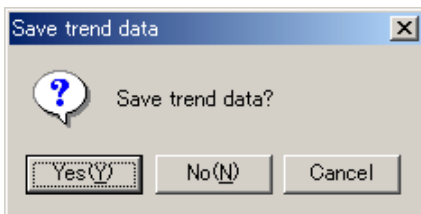
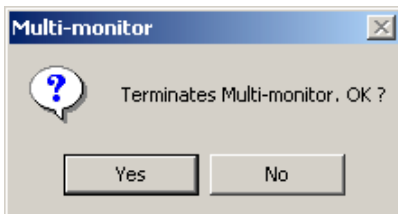

Figure 2.2.1 Save Trend Data Confirming Message Box
Figure 2.2.2 Close Message Box
- (1) From the menu bar, choose **File**, then **Exit**.
- (2) The following message box (Figure 2.2.1) appears when the tool is under operation. The following message box (Figure 2.2.2) appears when the tool is not under operation.
- (3) The message box (Figure 2.2.2) appears for confirmation.